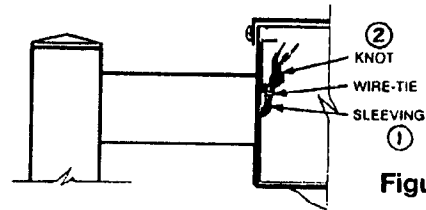

Figure 3
2. Be sure to install wire clamp (provided) on sleeved supply wires near wire entrance. (See Figure 3)
4. After connections are made, incoming supply leads must be held away from hot surfaces of ballast and reflector using wire tie provided. (See Figure 3)